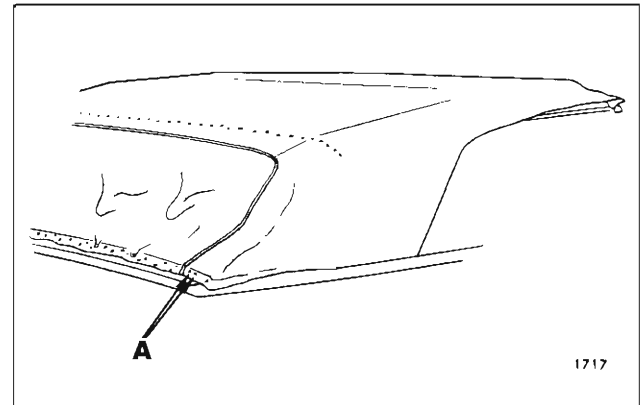

Fig. 2-I-21 — Tacking Top Material
38. Using previously marked lines (ends of trim stick) as locating reference, tack top material to rear and rear quarter trim sticks. "A" in Figure 2I21 shows top material installed to rear trim stick at inboard edge.